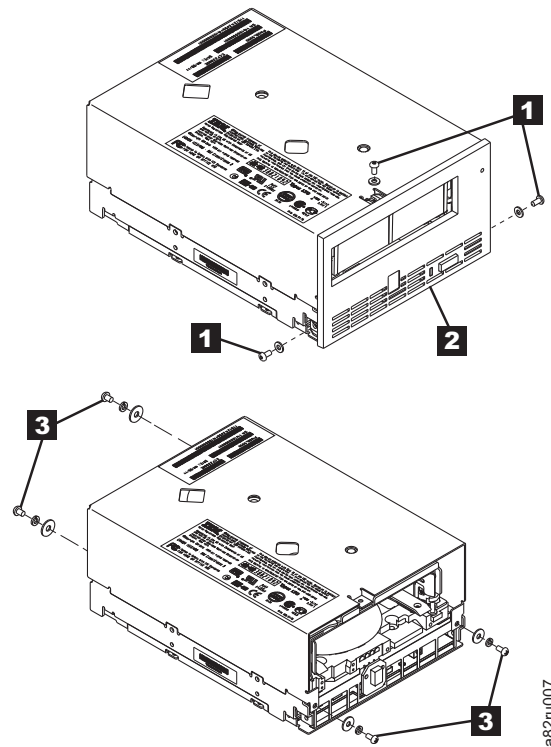

Figure E-5. Removing the cover from the internal drive
- a. Using a Phillips screwdriver, remove the three screws and washers (see **1** in Figure E-5) that secure the bezel **2** to the internal drive, then remove the bezel.